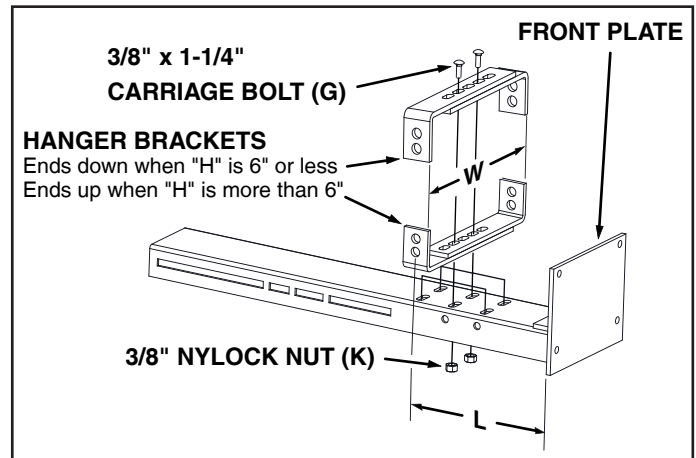

FIGURE 6
STEP 6: (SEE FIGURE 6 AND THE ILLUSTRATIONS ON PAGE 9)